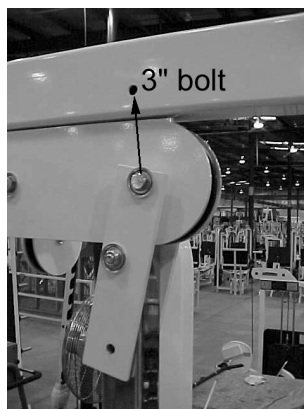

Figure 12. Mount adjustable pulley bracket.
7. Mount adjustable pulley brackets. When shipped, the adjustable pulley brackets look like the ones shown in Figure 12. The bolts need to be removed and the bracket needs to be positioned so that the top of the bracket is in the top hole as shown by the arrow in Figure 12. Use a 3" bolt with flat washers, end cap washers and end caps. When you remove the bolts, leave the pulley bolt and pulley out since you will need to thread the cable with the pulley removed.